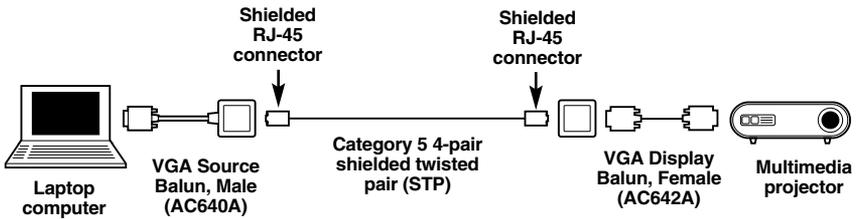

Figure 3-1. Connecting a multimedia projector to a laptop computer.
9. Connect a 4-pair CAT5 cable from the balun's RJ-45 connector to the appropriate modular wall outlet. See the typical applications shown in Figures 3-1 through 3-4.